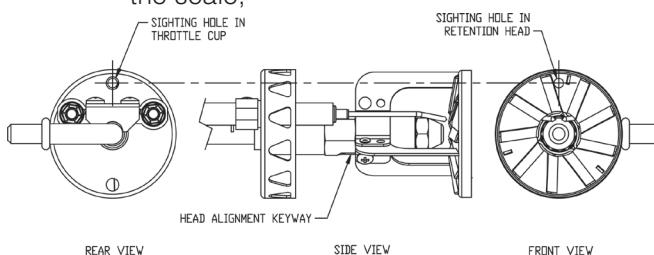

Figure 30: Retention Head/Throttle Cup Alignment
- i. Check retention head alignment. Cad cell sighting holes in the throttle cup and retention head must line up, so the cad cell can see the flame. Make sure that the "stamped key" in the retention head collar lines up with the "keyway" in the nozzle adapter, when mounting the retention head. See Figure 30.